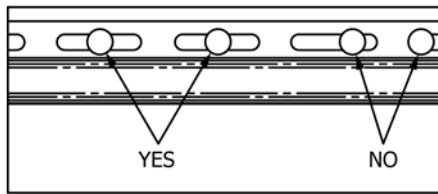

FIG. 7 Fastening Location in Siding Slots
9.1.2 Center fasteners in slots of siding and accessories to permit possible expansion and contraction. (See Fig. 7.) If a nail slot does not allow centering/securing into framing, furring, or other permitted nailable surface, use a nail hole slot punch to extend the slot and allow centering of the fastener.